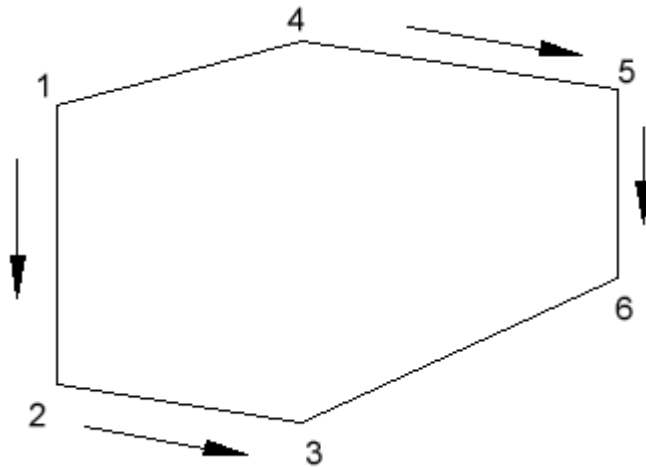

Figure 2.1.2
**Step 2:** Invoke the **3D Face** command and draw a similar shape to last one, but this time take note of where the edges are set invisible. **Figure 2.1.2.**
**Note:** Pick points on the screen, following the sequence in **Figure 2.1.2** to create a similar shape.